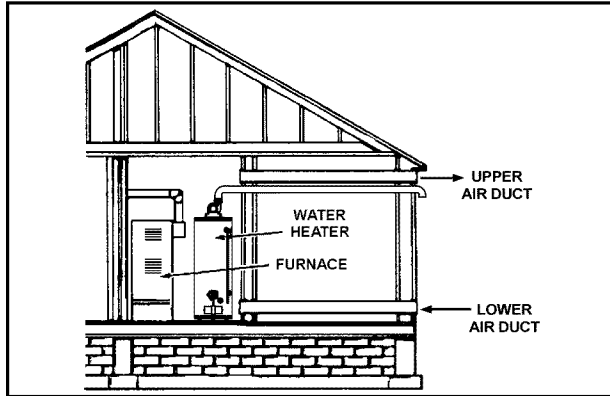

Figure 18
3. When communicating with the outdoors through horizontal ducts, each opening shall have a minimum free area of 1 square inch per 2,000 Btu/hr (11cm²/kW) of total input rating of all equipment in the enclosure (see Figure 18).
4. When ducts are used, they shall be of the same cross-sectional area as the free area of the openings to which they connect. The minimum short side dimension of rectangular air ducts shall not be less than 3" (76mm) (see Figure 18).